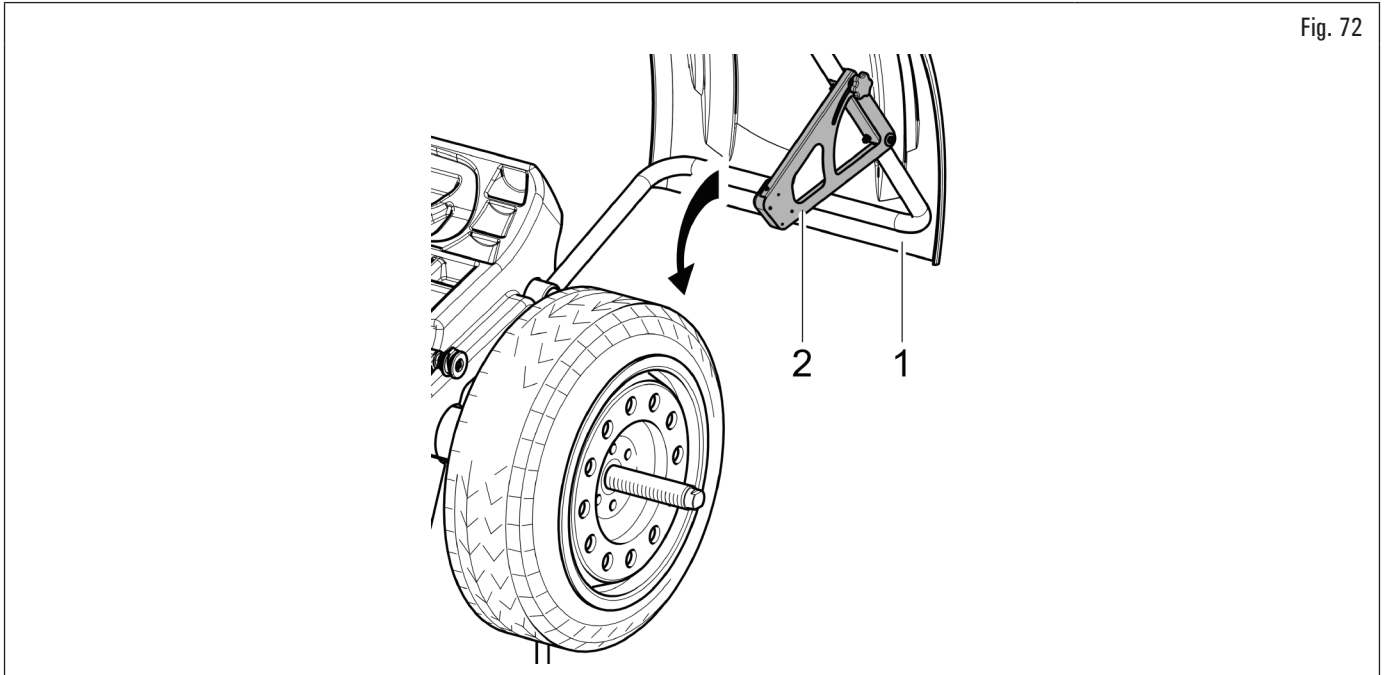

Fig. 72
Each time that the wheel protection guard (Fig. 72 ref. 1) is closed, the automatic width measuring device (Fig. 72 ref. 2) measures the width of the wheel that is mounted on the chuck. the relevant value is stored automatically in the fields prepared of the chosen balancing program.